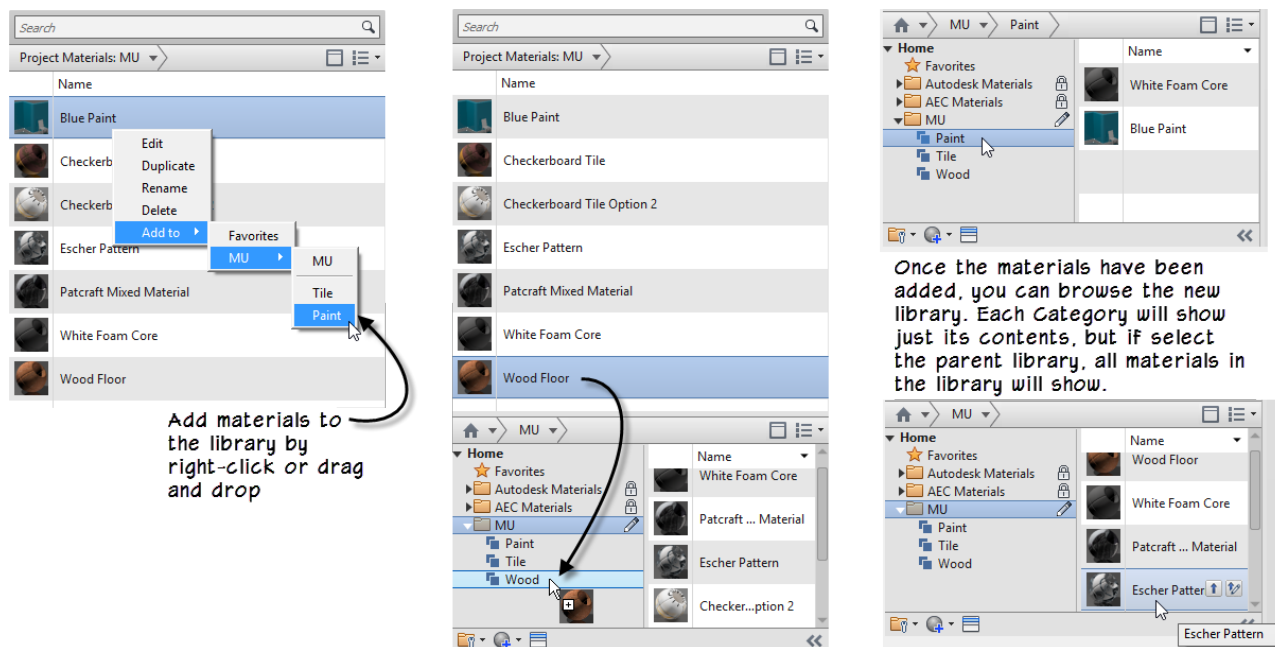

Figure 29—Add materials to the new library
8. Right-click the first material and choose: **Add to > MU > Paint** (see the left side of Figure 29).
Otherwise you can drag from the current project above to the new category (see the right side of Figure 29).